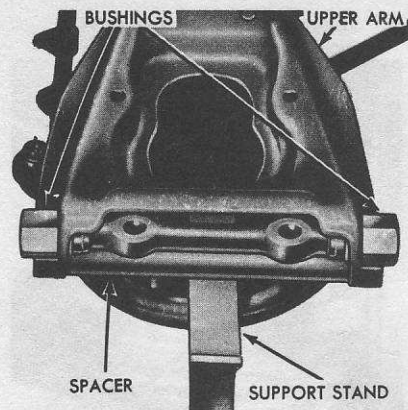

Fig. 11.12 Torque-tighten the upper arm bushings (Sec 9)
- 6 Force the spacer between the flanges of the upper arm, as shown in Fig. 11.12, then torque-tighten the bushings to 25 to 35 lbf ft (3.5 to 4.8 kgf m).